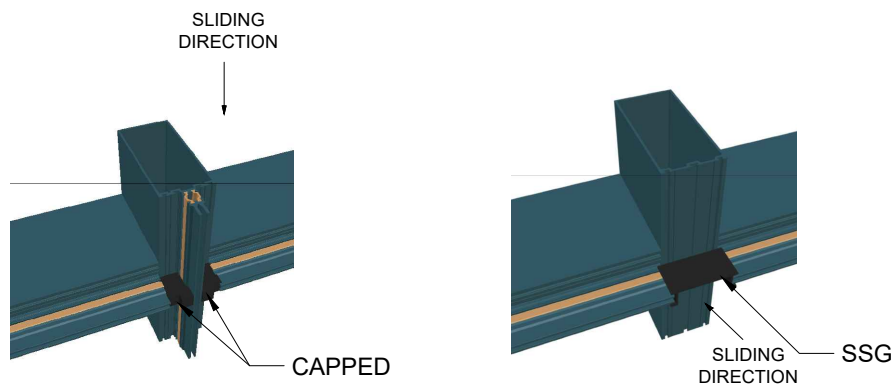

Fig. 10, (Zone plugs)
- 4.1 Apply sealant to all contact surfaces on the vertical and horizontal mullions where zone plugs will be installed. Force sealant into gasket race. Install zone plug at the end of each horizontal mullion by sliding plug down into pocket from above and from the face in SSG application as shown in **Fig.10.** Tool sealant around all sides of the zone plug (**Fig. 10**) and in the glazing pocket to ensure a watertight seal. Apply generous bead of sealant to face of zone plugs just prior to installing vertical pressure plate.